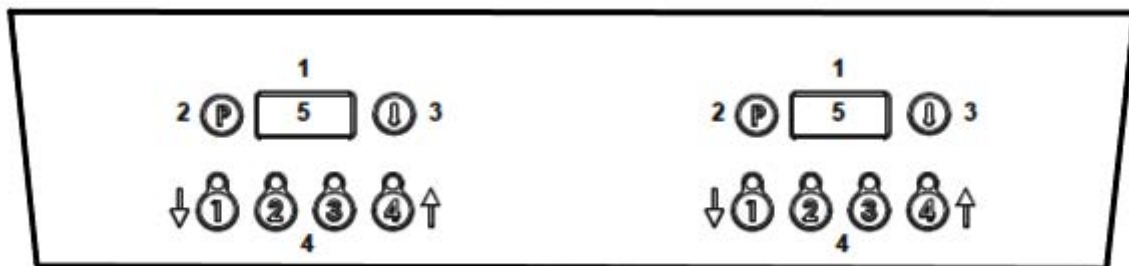

Figure 4 – E3845P/E3845FP/E3845F2P Control Panel
3.3.3 E3845P/E3845FP/E3845F2P Fryer Control Panel (See Figure 4)
3. **Start Button:** Both pans have a start button. Once operator has established there is sufficient oil in the pan, pushing will engage the controller (See figure 4).